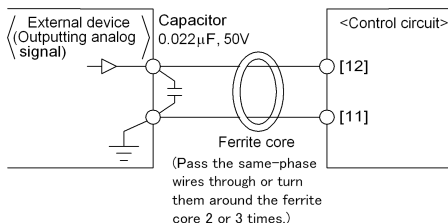

Figure 2.14 Example of Electric Noise Prevention
- When the inverter is connected to an external device outputting the analog signal, a malfunction may be caused by electric noise generated by the inverter. If this happens, according to the circumstances, connect a ferrite core (a toroidal core or an equivalent) to the device outputting the analog signal and/or connect a capacitor having the good cut-off characteristics for high frequency between control signal wires as shown in Figure 2.14.